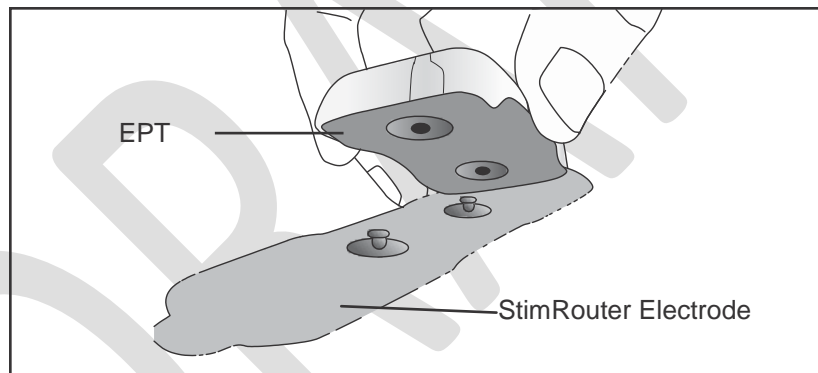

Figure 6-6. StimRouter electrode and EPT connection.
3. Snap the EPT into the StimRouter electrode. See Figure 6-6.